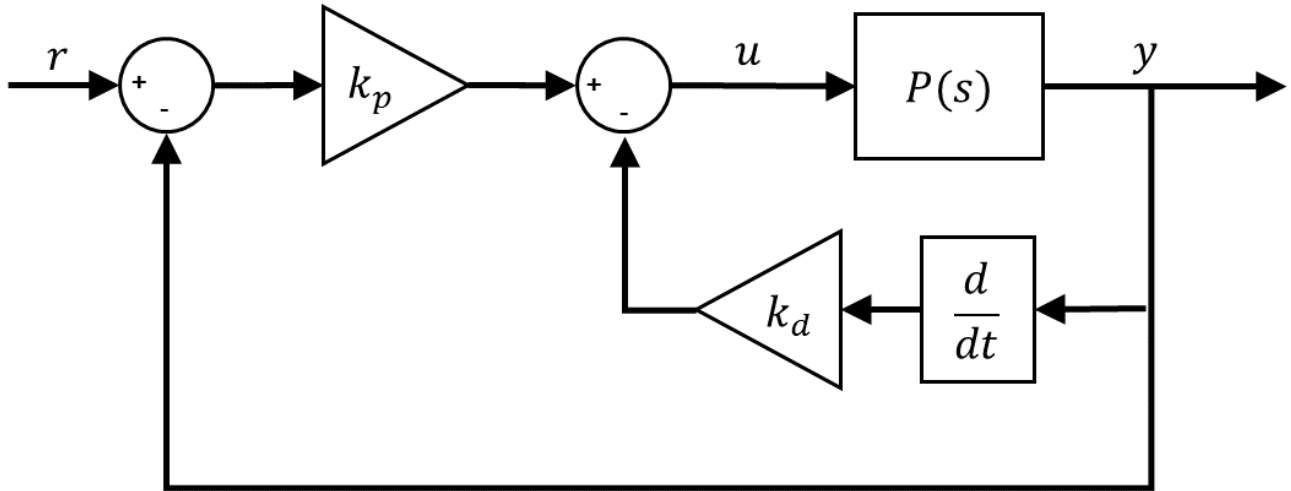

Figure 1: PD Control
We can use the Proportional-Derivative (PD) control shown in Figure 1 to stabilize the yaw position to a setpoint: